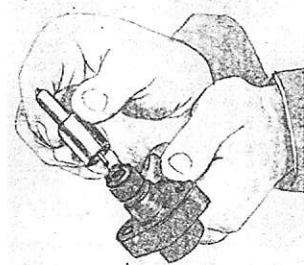

Fig. 160—Make sure locating dowels are carefully aligned when nozzle body is reinstalled.
Reclean all parts by rinsing thoroughly in clean diesel fuel or calibrating oil and assemble valve to body while immersed in the cleaning fluid. Reassemble the injector while still wet. With adjusting sleeve (5—Fig. 154) loose, reinstall nozzle body (11) to holder (9), making sure valve (10) is installed and locating dowels aligned as shown in Fig. 160. Tighten nozzle cap nut (12—Fig. 154) to a torque of 50 ft.-lbs. Do not over-tighten, distortion may cause valve to stick and overtightening cannot stop a leak caused by scratches or dirt on the lapped mating surfaces of valve body and nozzle holder.